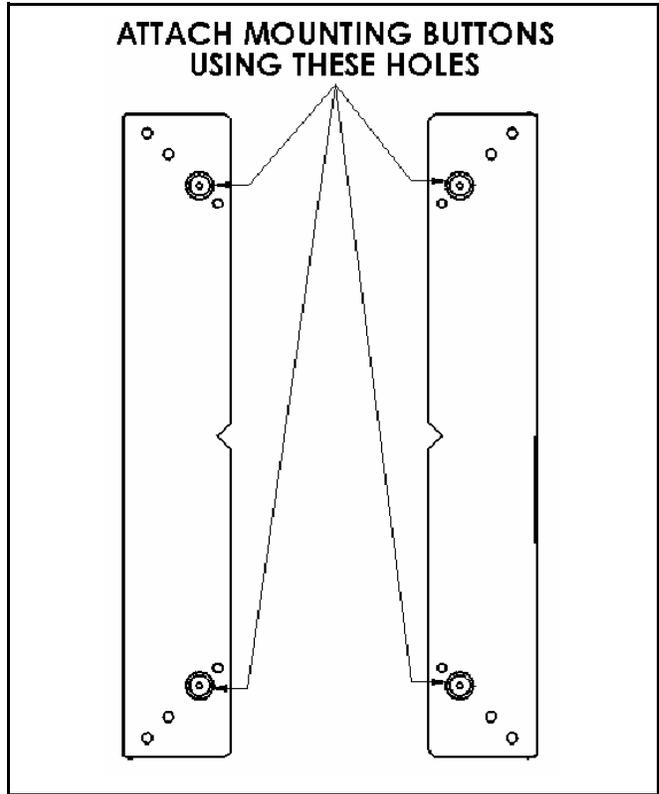
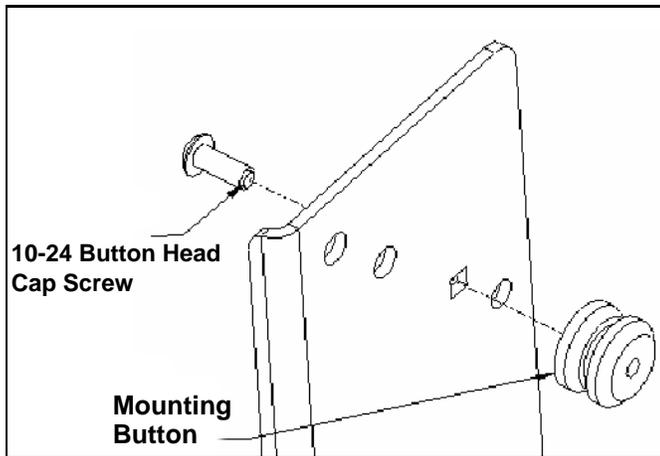

Figure 7: Mounting Button Location
Figure 6: Mounting Button Attachment
1. Using a 10-24 button head cap screw inserted from the backside of the bracket (see (See Figure 6:), secure the mounting button with the chamfered hole of mounting button (larger surface) facing the bracket (See Figure 7:).